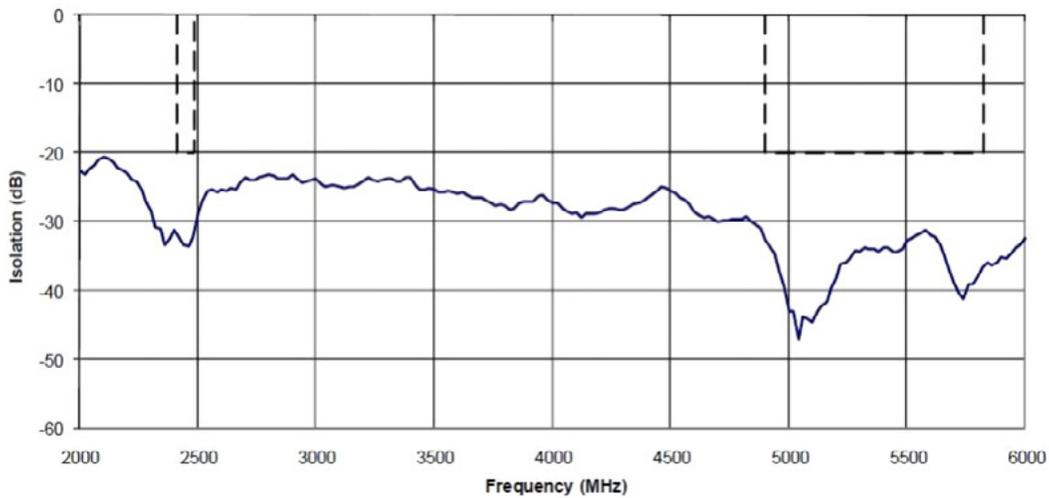

Figure 20: Measured Isolation Between Two 1000146 MIMO Antennas
- The measured In-band isolation is less than  $-30\text{dB}$  as shown in Figure 20 below.